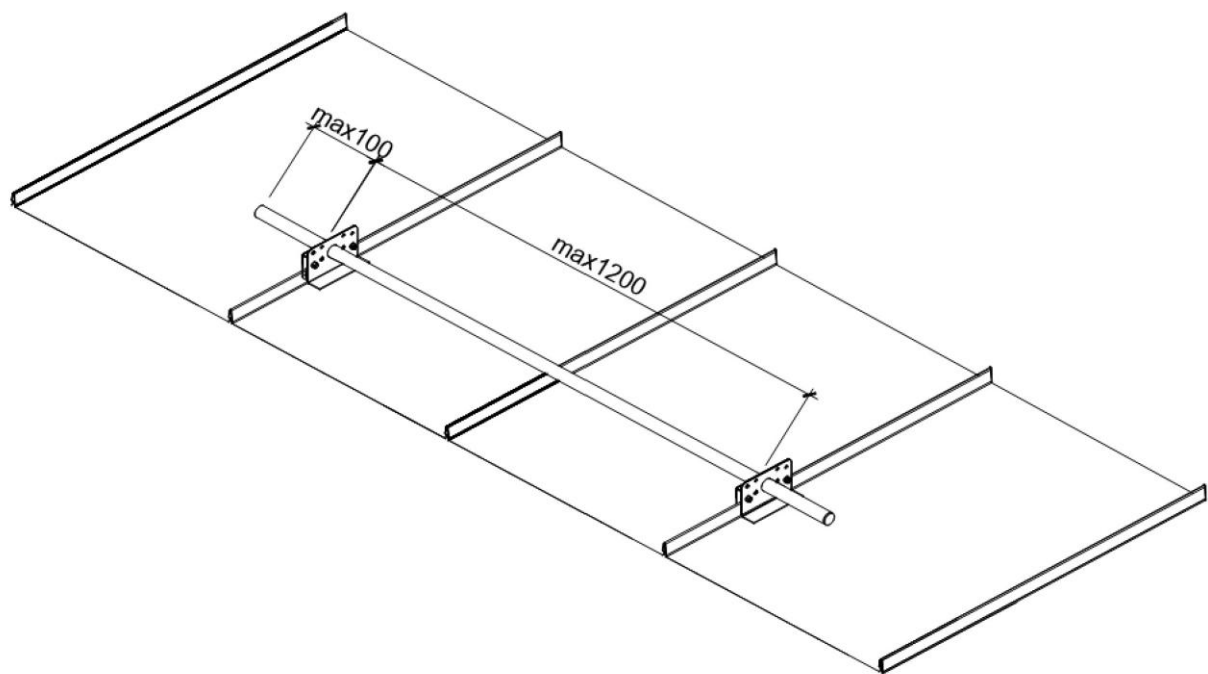

Figure 1.
- Place the tubes in the designated locations. The maximum distance between the L-bracket plates and pipe ends is 100 mm (Figure 1).